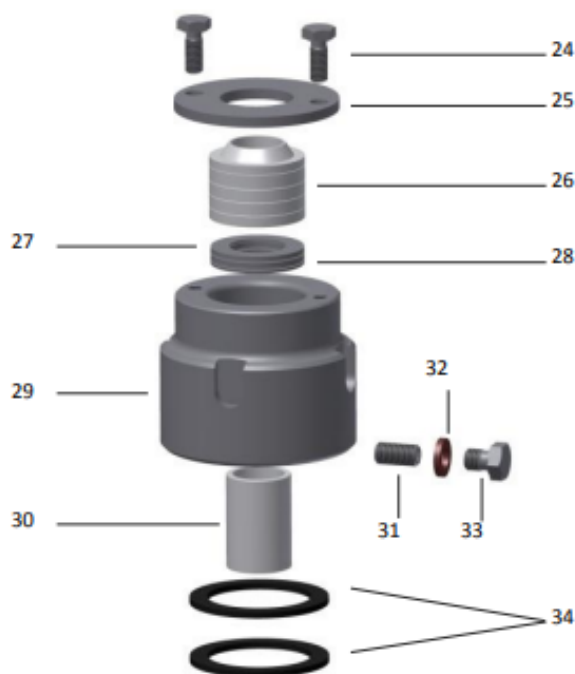

Figure 15: Bellows Seal NPS ½ - 6 CL 150 Stem ½" (Spare Part No. CVSHHLOI)
For NPS ½ to 6 (Figure 15) remove the safety stuffing box by loosen the screw (33), the set screw (31) and the clamp nut (29) in a whole. Than disassemble the valve as directed in section 7.2 carefully.